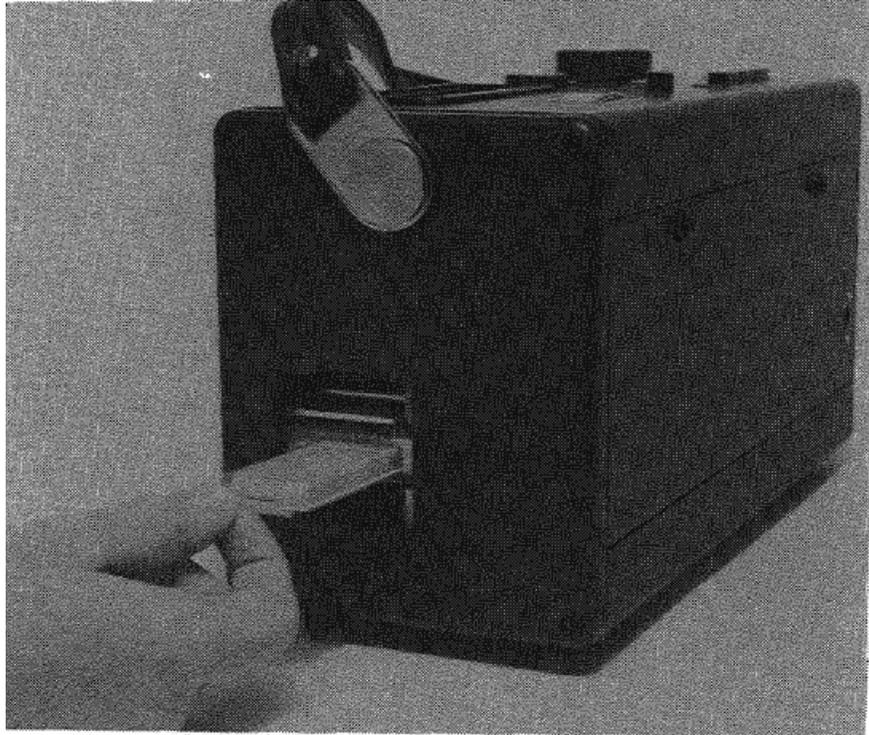

Figure 11. Installing the sponge tray
Step 8. Slide the tray into the PIEZOBALANCE with the exposed surface of the sponges face downward (Figure 11). Slide in the tray until you hear a click. The click means the tray is locked in place. Replace the sponge compartment door. It may be necessary to hold the sensor-cleaning dial in the 12 o'clock position as you replace the door.